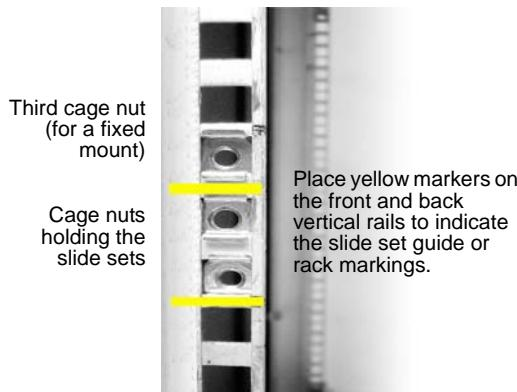

FIGURE 1-20. Graphical representation of the device position in the rack and slide set guides (rack markings)
2. Using the masking tape or felt-tip pen, place a mark on the rack's front vertical rails where you want to position the bottom of the device. *Figure 1-20* illustrates this step.